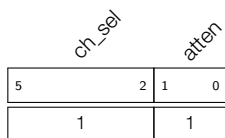

Figure 36-19. SAR ADC2 cmd2 Configuration
- Channel 1, with the attenuation of 2.5 dB. See Figure 36-19.